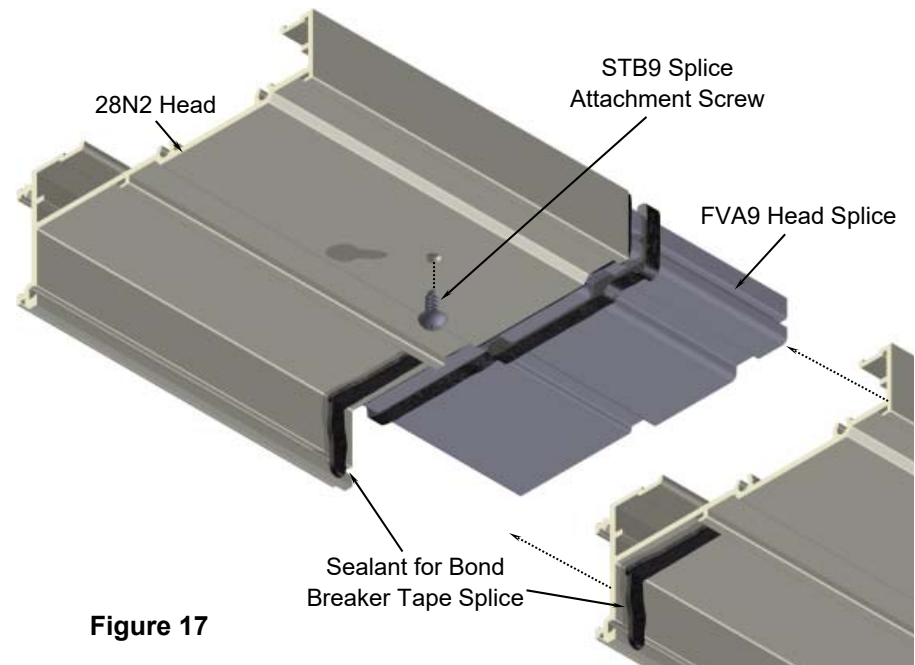

Figure 17
- Prior to setting the head, place silicone type of sealant to both sides of the splice joint. Attach one side of the splice to the frame using a #STB9 screw. (see figure 17)
- Using WM01 bond breaker tape, create a splice at the exterior glazing leg. Ensure that the bond breaker tape is centered over the 1/4" gap and then set the tape into the sealant. Tool the sealant over the bond breaker tape to create a watertight seal. (see figure 17 for location)